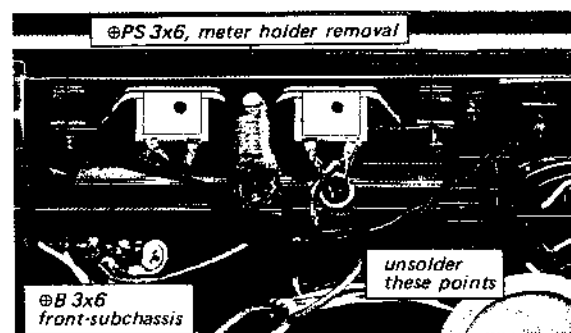
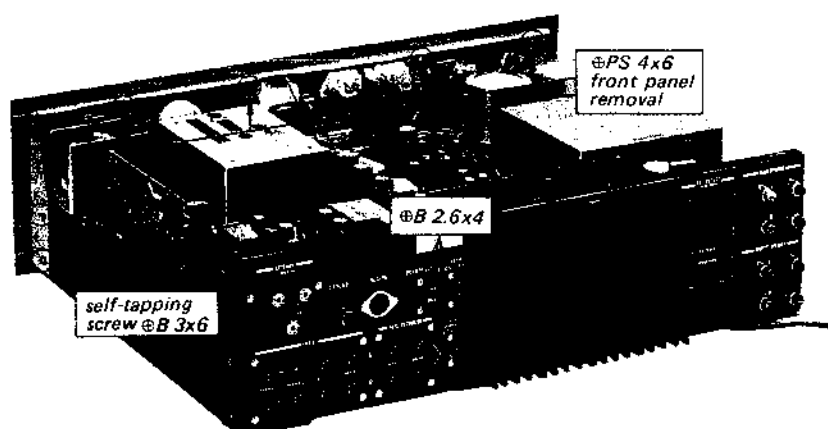
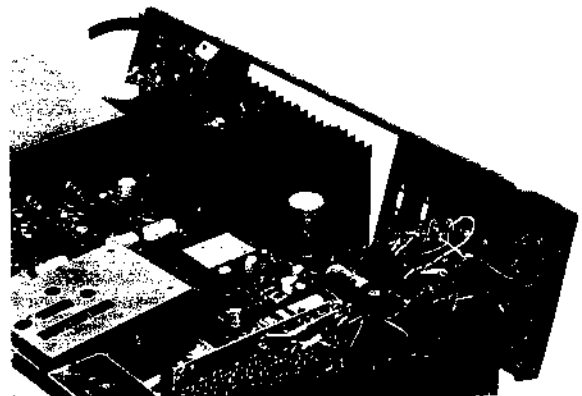

Fig. 2-3 Front subchassis removal
Fig. 2-4 Rear view
Fig. 2-17 Rear panel removal
3. Remove the four screws (\oplus PS 4 \times 6) behind the top edge of the front subchassis as shown in Fig. 2-4.
2. Remove the two self-tapping screws (\oplus B 3 \times 6) at each side of the chassis (see Fig. 2-4) and one screw (\oplus B 3 \times 6) securing the terminal strip to the chassis as shown in Fig. 2-3.
3. Unsolder the lead wires from the dial lamp socket as shown in Fig. 2-3.
3. Remove the two screws ($\text{#PS } 3 \times 6$) securing the meter holder to the front subchassis as shown in Fig. 2-3.
3. Remove the four screws ($\text{#B } 2.6 \times 4$) securing DE-EMPHASIS and SPEAKER EQUALIZER switches to the rear panel as shown in Fig. 2-4.
5. Remove the two self-tapping screws ($\text{#B } 3 \times 6$) at each side of the chassis as shown in Fig. 2-4. This frees the rear panel as shown in Fig. 2-17.